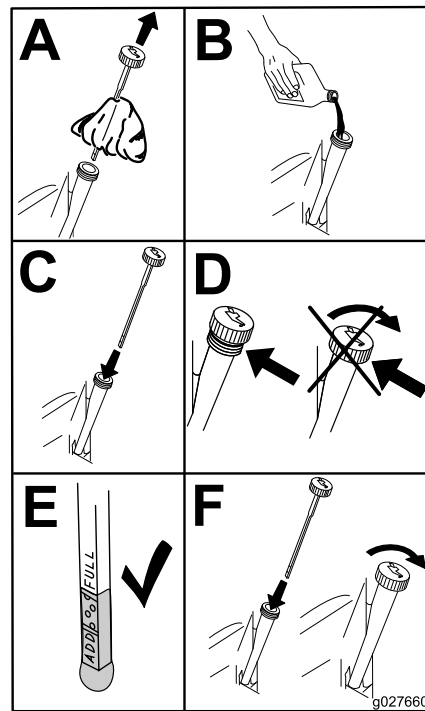

Figure 42
- Slowly pour approximately 80% of the specified oil into the filler tube and slowly add the additional oil to bring it to the **Full** mark (Figure 42).